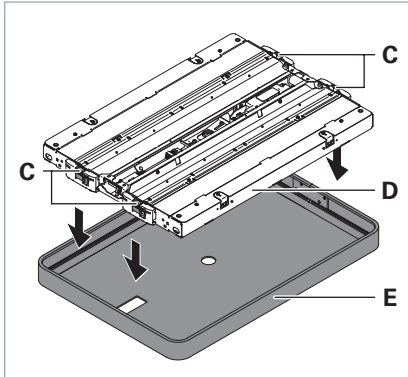

Fig. 7: Mounting the cover frame.
- Place the light chassis **D** from above into the cover frame **E** until the cover frame has locked into place in all four detent hooks **C**, see Fig. 7.